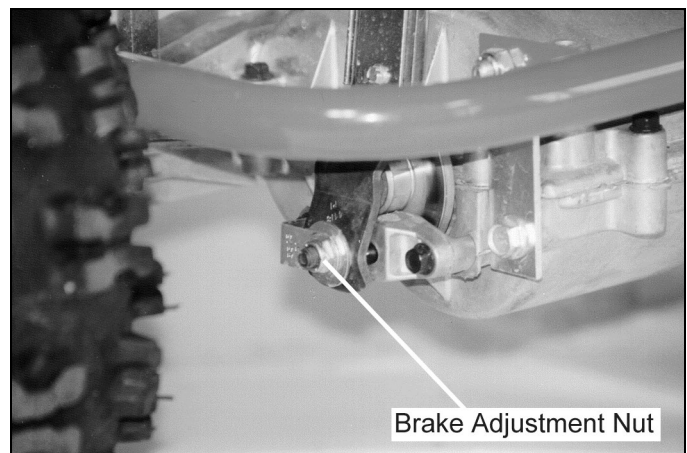

Figure 18
4. If it does move, turn the adjustment nut on the transaxle (*Figure 18*) 1/4 turn clockwise with the 1/2" wrench to tighten the brake. Test the brake as described in Steps 1-3. Repeat the adjustment if necessary.
5. If you can't get the parking brake to release, turn the adjustment nut on the transaxle (*Figure 18*) 1/4 turn counterclockwise with the 1/2" wrench to loosen the brake. Test the brake, as described in Steps 1-3. Repeat the adjustment if necessary.